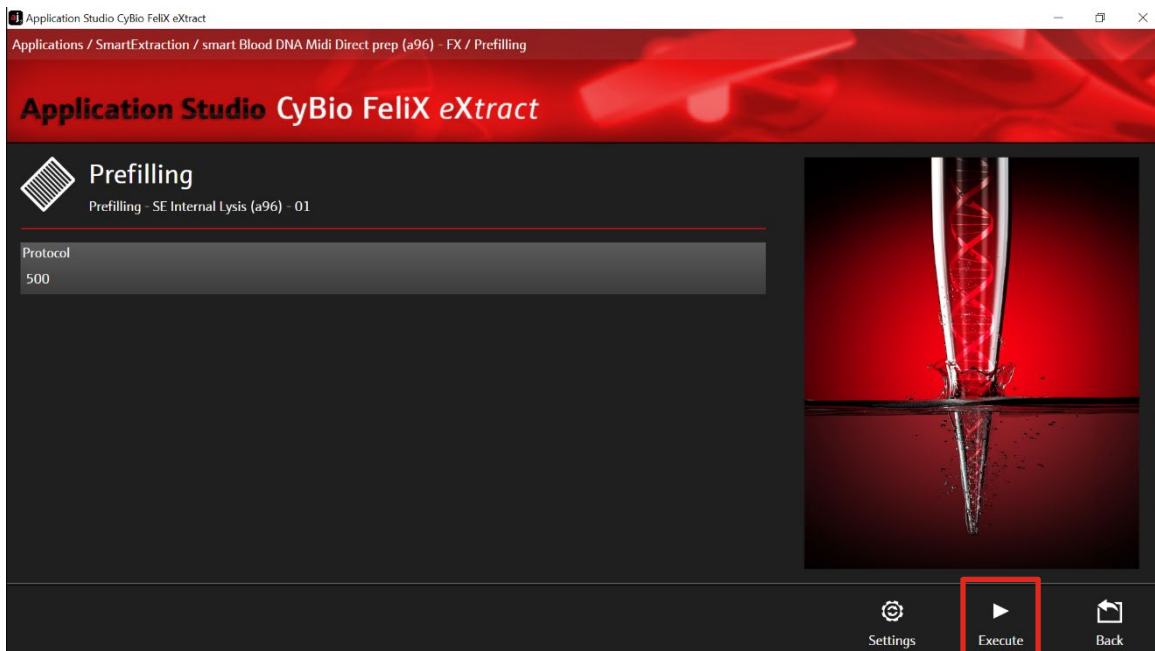

Figure 8: Selection of prefilling protocol for up to 500 μ L sample volume.
19. To adjust the sample volume, click the button "Protocol" and select "500" for up to 500 μ L sample volume (\rightarrow see Figure 8).